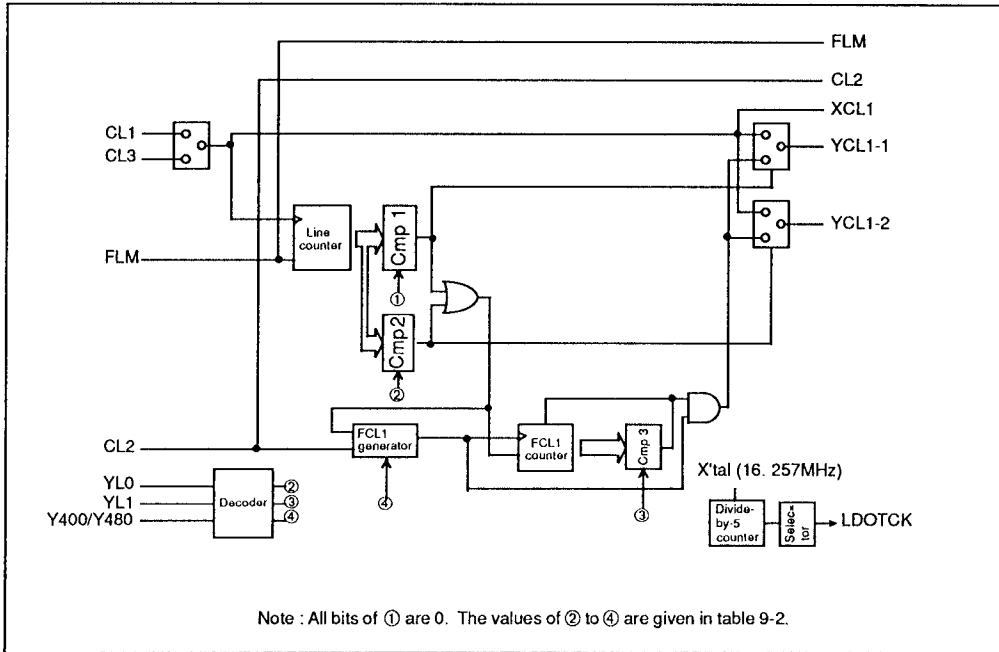

Figure 9-5 Centering Circuit Block Diagram
Figure 9-5 is the block diagram of a centering circuit. The line counter counts the number of displayed lines and is reset by the FLM signal. Comparators 1 and 2 compare the signal output from this counter with outputs ① and ②, respectively.